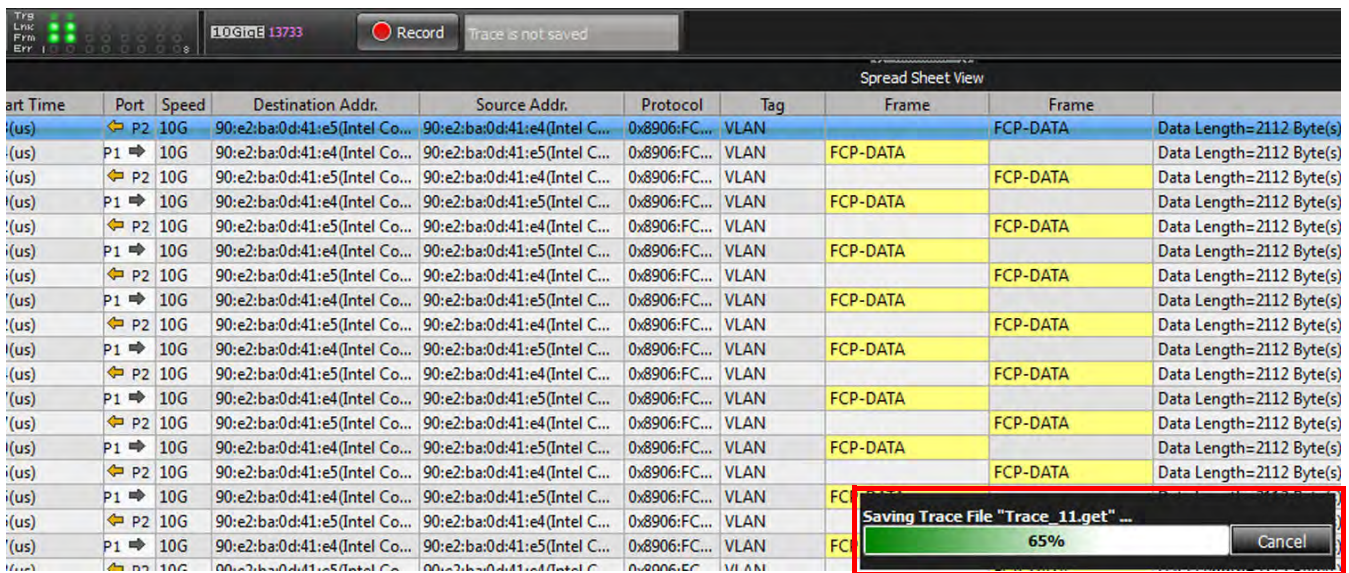

Figure 4.57: Analyzer Saving Data Trace to Host Computer
- The analyzer saves Trace data to the Host Computer (Figure 4.57). When “Saving” is displayed, this means the Trace has been captured and is being saved from the analyzer recording memory buffer to a file on the host PC.